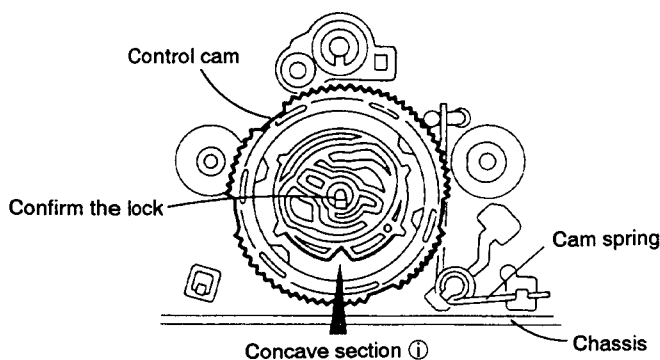

Fig. 5-50
3. After attaching the control cam to the shaft, align the concave section ① of the control cam to the position as shown in Fig. 5-50 while moving the forward/reverse arm and head base.